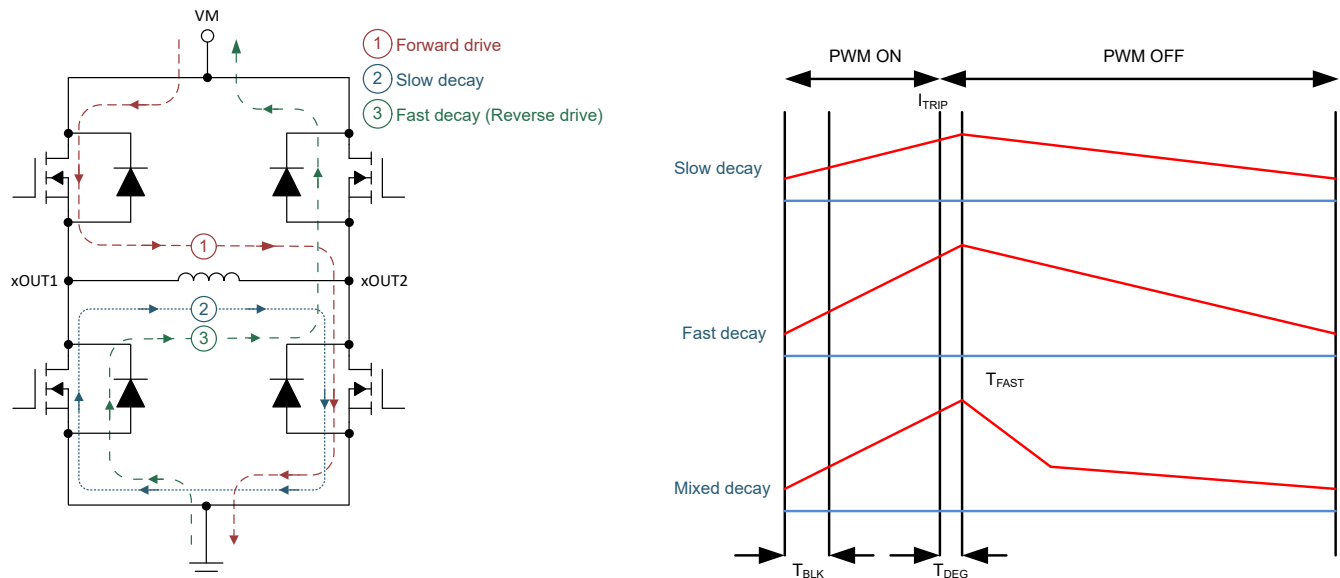

Figure 7-13. Decay Modes
During PWM current chopping, the H-bridge is enabled to drive through the motor winding until the chopping current threshold is reached. This is shown in Figure 7-13, Item 1.
- In fast decay mode, as soon as the PWM chopping current level is reached, the H-bridge reverses state by switching on the opposite arm MOSFETs to allow the winding current to flow in the opposite direction. As the winding current approaches zero, the H-bridge is disabled to prevent further reverse current flow. Fast decay mode is shown in Figure 7-13, item 2.
- In slow decay mode, the winding current is re-circulated by enabling both low-side MOSFETs in the H-bridge. This is shown in Figure 7-13, Item 3.